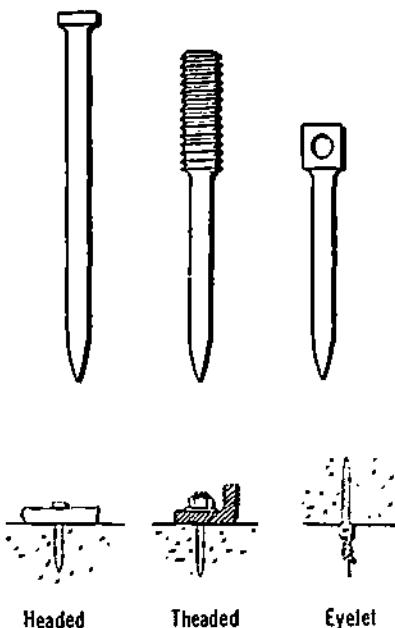

Figure 20-1. Three Basic Fasteners
- a) The three basic types of fasteners are shown in Figure 20-1. Consult your manufacturer's instructions for the types, sizes, and charges that are available for the particular tool you are using.